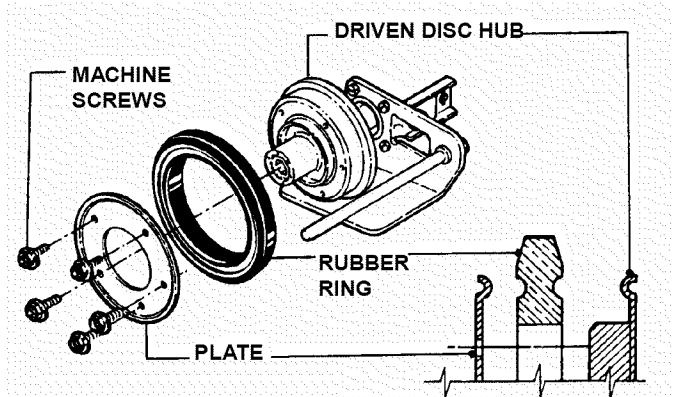

FIGURE 4.13
3. Remove the five machine screws and plate, which secure the rubber ring to the driven disc hub. See Figure 4.13.